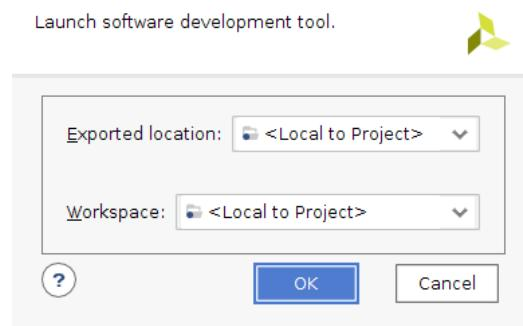

Figure 6. Launch SDK
6. To move to the next section launch SDK under “File>Launch SDK” (Figure 6).